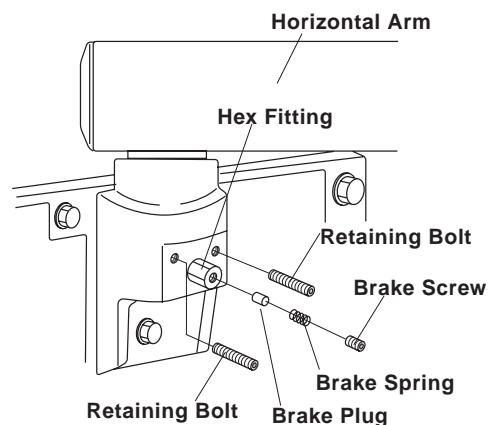

Fig.3-6 Horizontal Arm Installation-2
2. Insert two retaining bolts into the upper threaded holes of the arm mounting bracket and tighten securely with a Allen wrench. **(Fig.3-6)**
3. Insert brake plug, brake spring and brake screw (M6 x 6 mm) into the threaded hole of the hex fitting located on the arm mounting bracket. **DO NOT FULLY TIGHTEN. (Fig.3-6)**